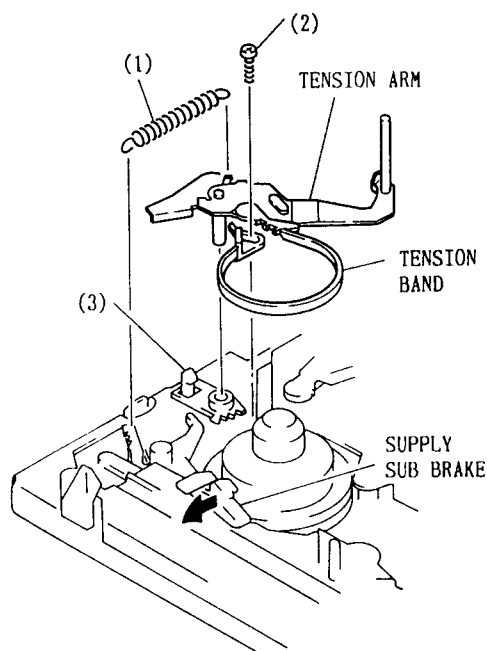

Fig. 7-5 Tension Arm/Tension Band
* Components 5 - 11 listed below will be described as if the top and bottom covers, front panel and the cassette loading mechanism have already been removed. (See items 2, 3 and 4 in the section on case removal and item 1 in the section on cassette loading mechanism removal)
5. Tension Arm/Tension Band (Fig. 7-5)